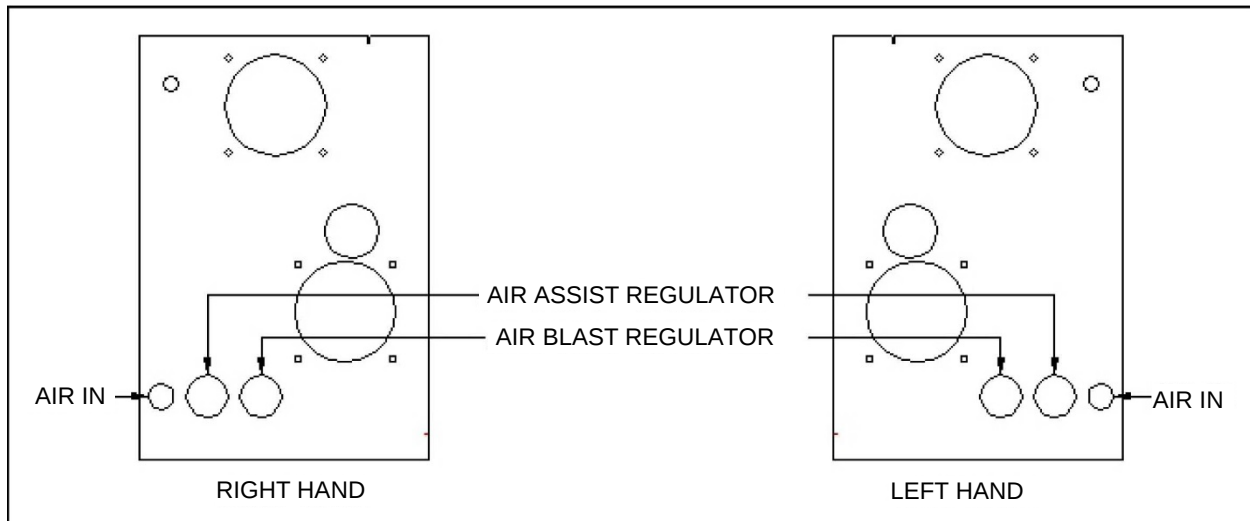

Figure 40 Air Blast and Air Assist Air Regulators
Use the air regulators to set the following air pressures before continuing with the set-up procedures. Refer to Figure 40.
1. Use the air assist pressure regulator (See Figure 40) to adjust the air assist pressure gauge to read to between 5 and 10 P.S.I. (.3 and .7 bar). This is a typical pressure setting, but it may be changed later if more pressure is needed.
2. Use the air blast air regulator (See Figure 40) to adjust the air jets pressure gauge to read 50 P.S.I. (4.0 bar). This is a typical pressure setting, but it may be changed later if necessary.